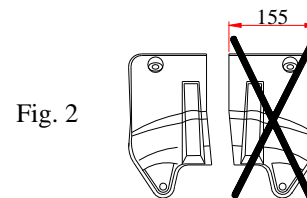

Fig. 2
- on the right side – on protruding bolts put right bracket (pos. 4). Put distance sleeves pos. 6 before! Twist on loosely.
6. Between installed side brackets (pos. 4 and 5) put main bar of the towing hitch (pos. 1) and fix using bolts M10x120mm, M12x35mm and M12x50mm. See figure.
7. Reassemble thermal shield after cut out fragment according to figure 2.
9. Fix tow-ball (pos. 2) with socket plate (pos. 3) using bolts M12x75mm (pos. 10) from accessories.